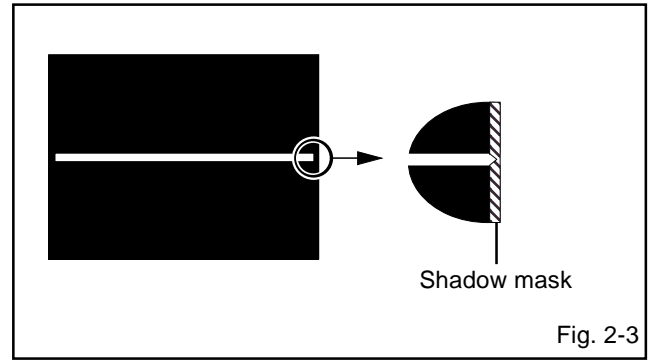

Fig. 2-3
4. Press the VOL. UP/DOWN button on the remote control until the horizontal line becomes fit to the notch of the shadow mask. (Refer to Fig. 2-3)